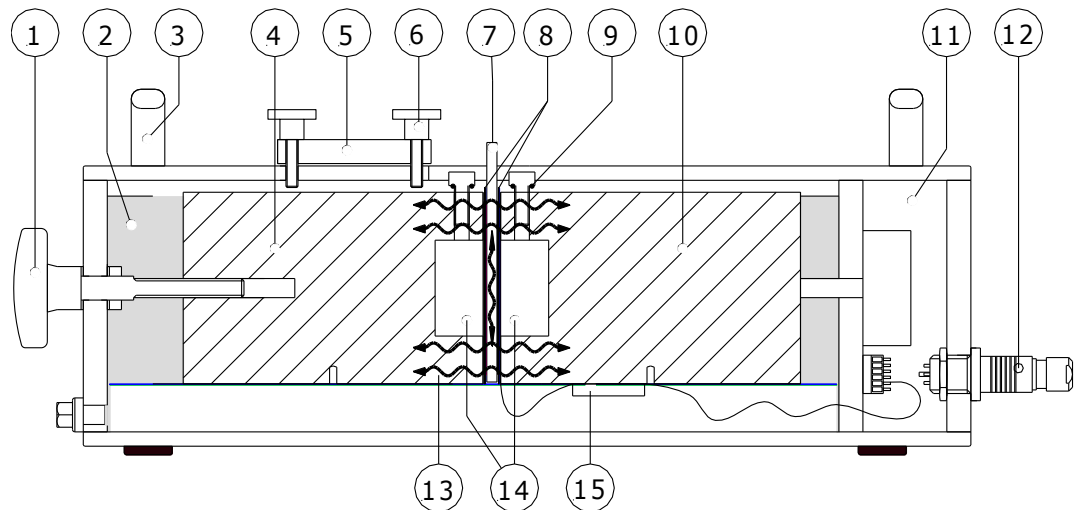

Figure 1.1.2 Cross section of THI01
- Purchase 1 litre of glycerol (also called glycerine or glycol). This fluid is available in any pharmacy. It is safe for hands, eyes etc. Fill the THI01 with glycerol. Open the slot. Put in the Pyrex 7740 reference samples. Close the slot using corded knob at the side (part 1 in figure 1.1.2).